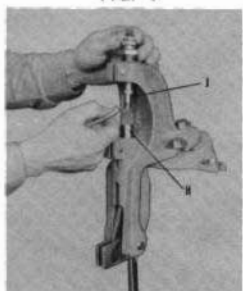

FIG. 6
IMPORTANT: To insure ease of operation and long life, we suggest that the outside of nose punch (J) be lightly coated with lubricant provided, prior to inserting into swage body (H). See Fig. 6. It is recommended that the nose punch be relubricated every 50th bullet. Caution must be taken not to allow lubricant to enter inside of nose punch (J).